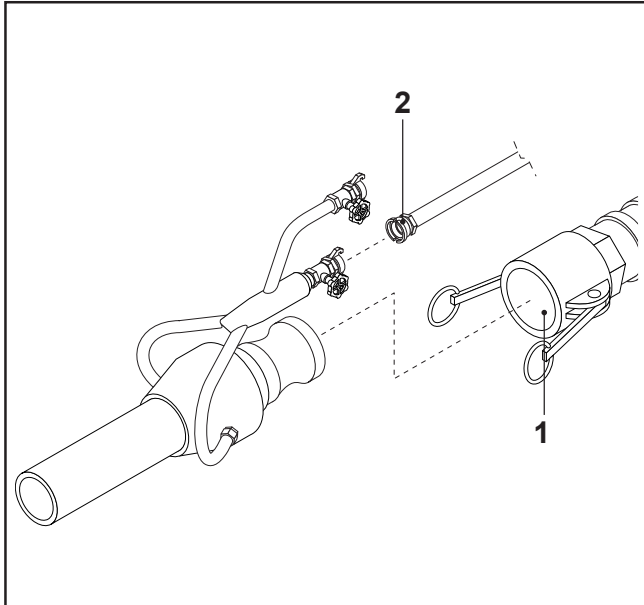

FIG. 23
- Connect the slurry delivery hose (FIG. 23-REF. 1) to the shotcrete nozzle and the air delivery hose (FIG. 23-REF. 2) to the nozzle and to the auxiliary compressor.